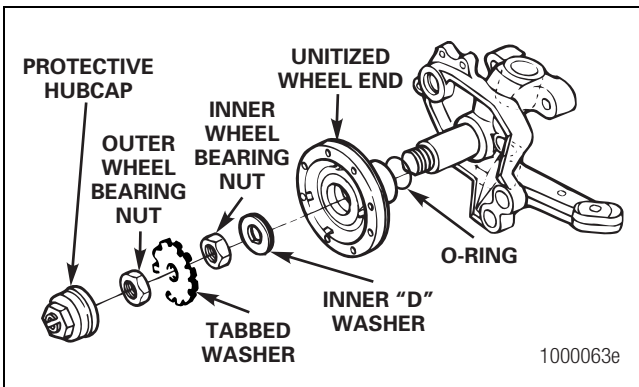

Figure 3.12
- **If the total movement of the dial indicator is 0.003-inch (0.08 mm) or greater:** Remove the outer bearing nut and tabbed washer. Tighten the inner wheel bearing nut to 500-700 lb-ft (679-949 N•m) while rotating the unitized wheel end a minimum of five rotations. Figure 3.12.